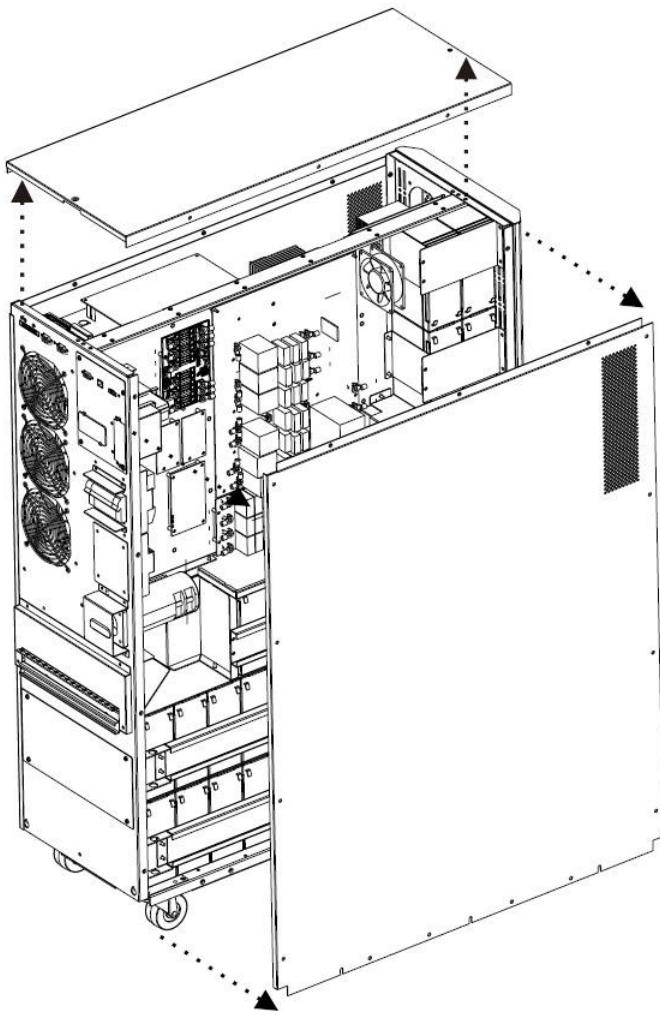

Figure 3.2
- 2) Remove top plate, right side and left side plates (Figure 3.2).